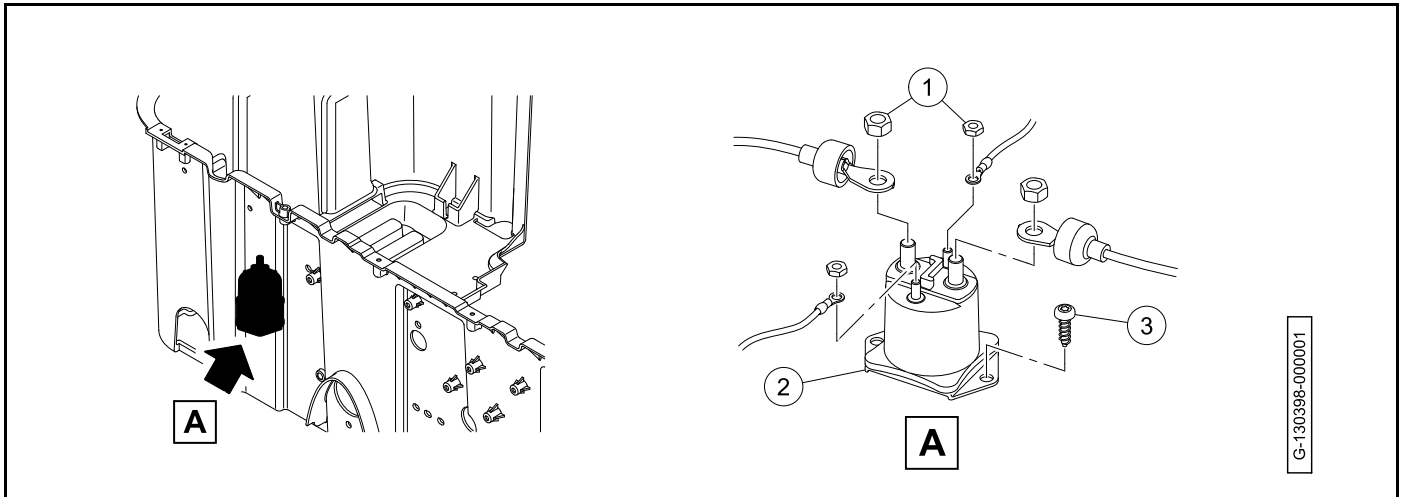

Figure 20-18 Solenoid Removal
2. Remove the nuts (1) from each post (**Figure 20-18, Page 20-19**).